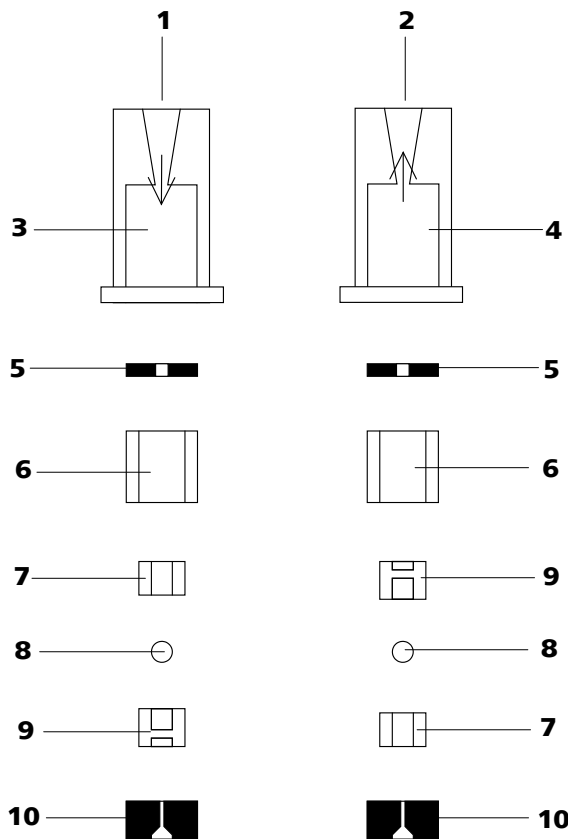

Figure 31 Components of the inlet valve and outlet valve
- The inlet valve and the outlet valve consist of the same, just differently arranged components (see Figure 31, page 62).
Reassemble valve components *according to figure 31, page 62*.
- Lay the other valve components above another in the correct sequence (*see Figure 31, page 62*).
If this is not the case, the valve has to be dismantled again and be reassembled correctly (see Figure 31, page 62).